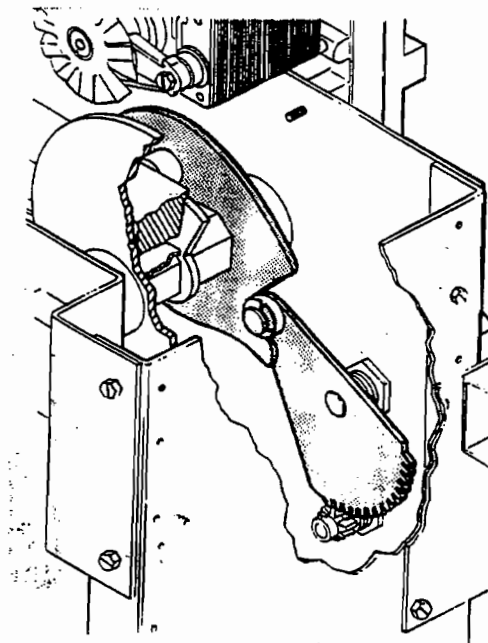

FIGURE 3.11
8. Confirm that the cam follower is in the deepest valley of the rear cam (See Figure 3.11) by cycling the brewer to this position. This position of the cam and follower guarantees that the brewer is in the dump position.
11. While holding the follower in the valley of the cam, (see Figure 3.11) install the outer section of the cable spool over the inner section. Release the follower and spool and check that the clearance set above is maintained. If so, make a new reference mark across the spool and remove the outer section of the spool and rotate it counter-clockwise one tooth - proceed to Step 13.